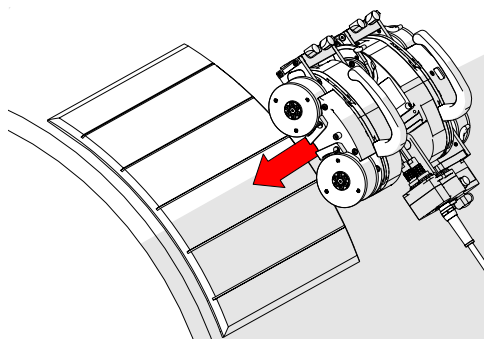

Fig. 284 - Lower crawler to mat
3. Place and hold the crawler on the installation/removal mat (Fig. 284).